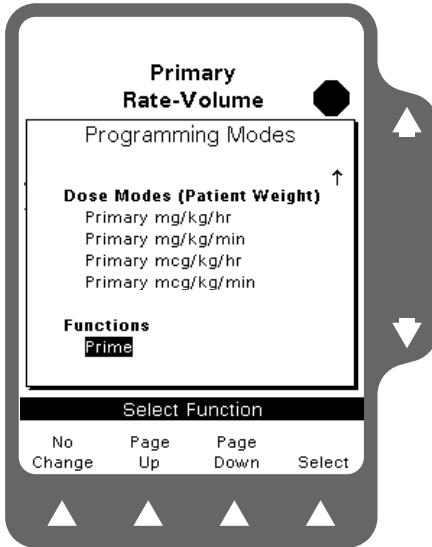

Figure 5-28 Programming Modes Menu
- Use the $\uparrow\downarrow$ keys to highlight Prime (under Functions), then press the **Select** soft key (Figure 5-28).